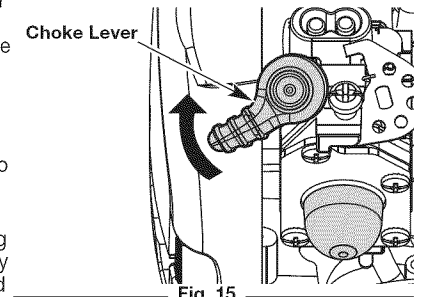

Fig. 15
4. Flip the choke lever clockwise until it clicks (Fig. 15).